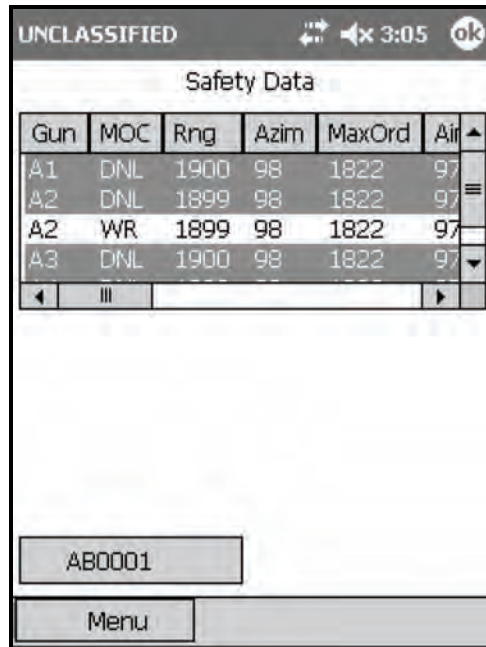

Figure 18-6. Safety Data screen.
(14) Select Solution.
(15) Select <Target>.
(16) Select Safety Data.
(17) The Safety Data screen (Figure 18-6) displays. This screen allows the operator to review and verify the safety data for each gun in the active mission. All guns used in the mission are displayed on the left side of the screen. Data for each gun is listed to the right. Table 18-5 displays the data fields for this screen.